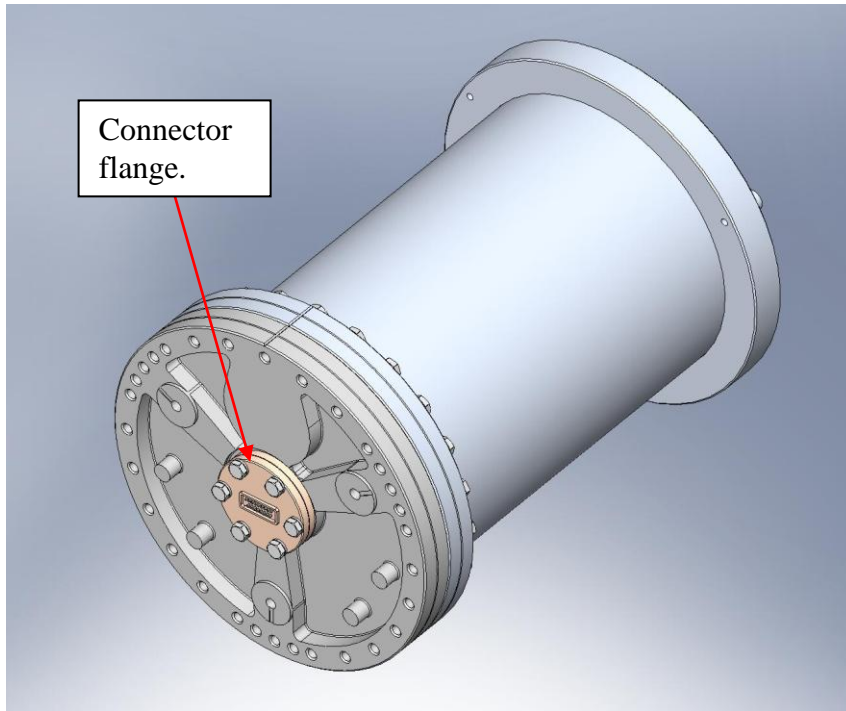
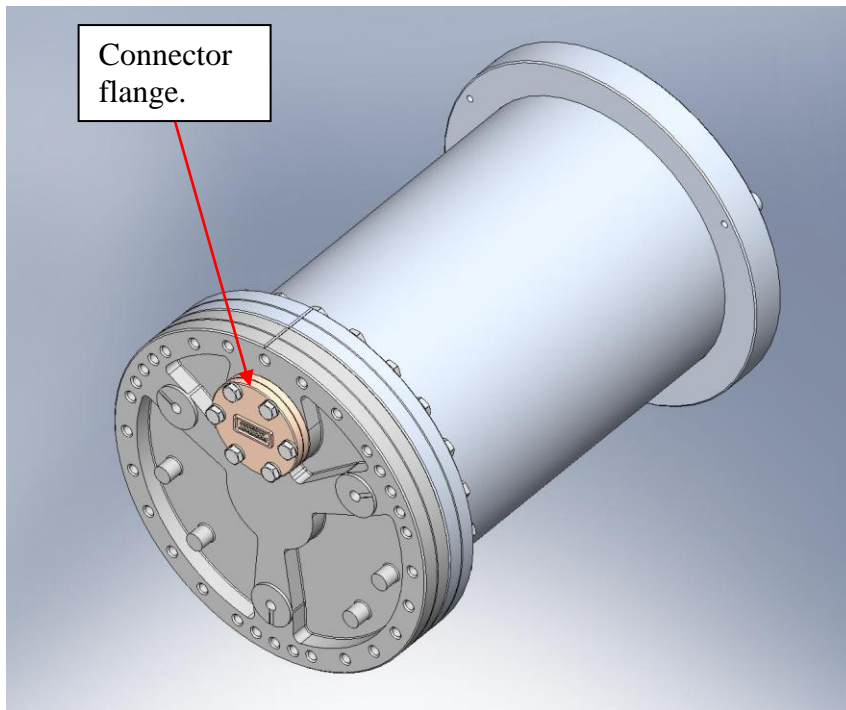

Figure 3.44. GS-13 Pod, Horizontal configuration. Note *centered* location of connector flange.
Figure 3.45. GS-13 Pod, Vertical configuration. Note *offset* location of connector flange.
- Set aside all (6) **Position Sensor Assemblies** for later installation. *Sensor must be protected from accidental damage!*
3.0.5 Prep Work – Finish (6) GS-13 Assemblies (D071470)
- Follow instructions given in separate document for assembly of (6) **GS-13 Seismometer Pods** (D047810). Of these **Pods**, (3) should be in the Horizontal configuration (shown in Figure 3.44) and (3) should be in the Vertical configuration (shown in Figure 3.45).